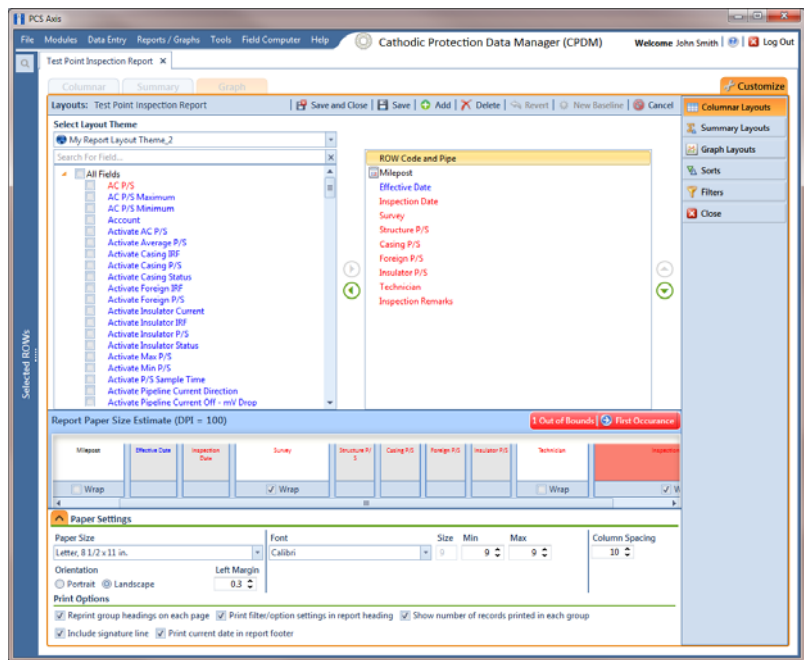

Figure 15-32. Columnar Layouts
- 8 Complete the following steps to add and remove fields in the report layout theme as needed (Figure 15-32, page 651):
- 10 Click  **Paper Settings** to open the property settings panel (Figure 15-32).
- a Place the mouse over a column boundary to change the cursor to a horizontal resize cursor  (Figure 15-32).